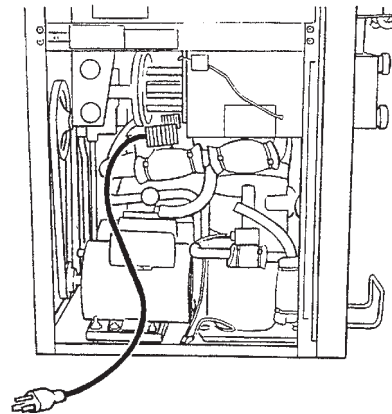

Figure 45. Power Cord
- To check the suction line solenoid valve seats, we must keep the liquid line solenoid open. Use power cord, Part No. 430119, or equivalent, for direct connection (Figure 45). Then attach a low side pressure gauge to the access fitting after the expansion valve. Force the opposite side to run. If the pressure drops more than 3 PSI in 30 seconds on the side not calling for refrigeration, the suction line solenoid valve seat leaks and should be replaced. Repeat the procedure for the other side.